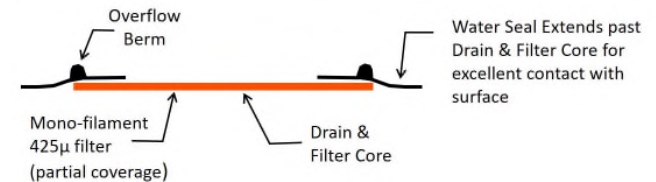
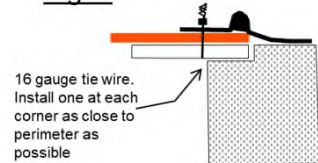

Fig. 1
Fig. 2
- 2. Anchor methods:** **A)** Attach with 16 gauge tie wire. Cut wire to 18" lengths. At each corner of GR8 Guard™, feed one end of wire down thru GR8 Guard™, around grate bar, and back-up thru GR8 Guard™. Above ground, pull tight and twist wires several times. Cut off excess (Fig 1) or **B)** Place small snake bags or equivalent (gravel bags) containing clean, pea-sized graded gravel around perimeter of GR8 Guard™ (Fig. 2), or **C)** Place traffic cone on top of GR8 Guard™ (Fig 3). For better performance and durability install with Top Guard™ adhesive (Loctite® Power Grab All Purpose) caulk. This adhesive peels off easily when GR8 Guard™ is removed. See installation videos: Part I: <https://youtu.be/qMPq9mE2784> Part II: <https://youtu.be/3GfbgpYuHNw>